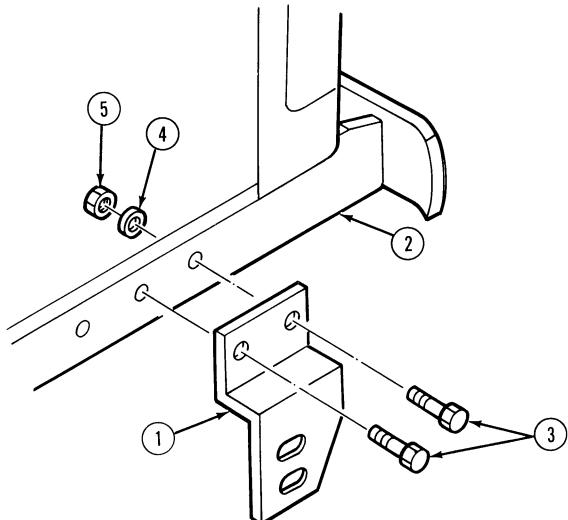
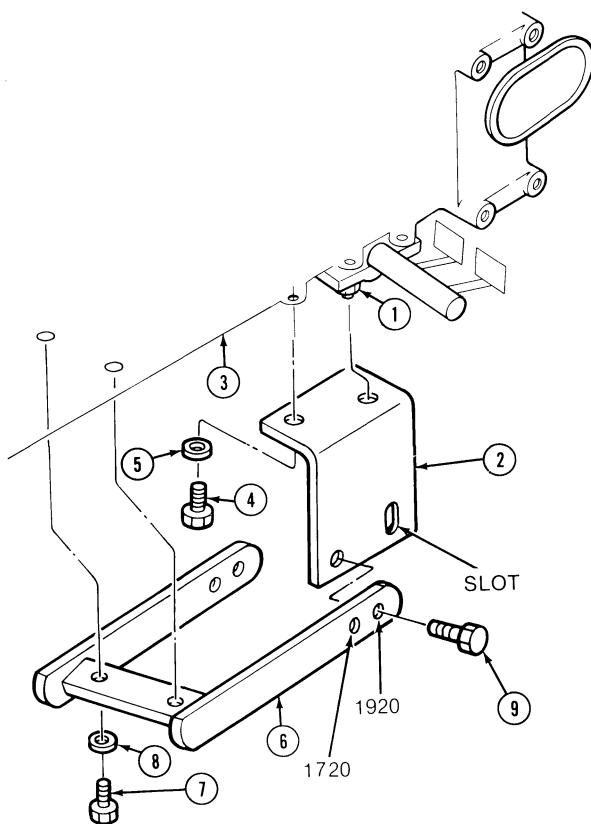
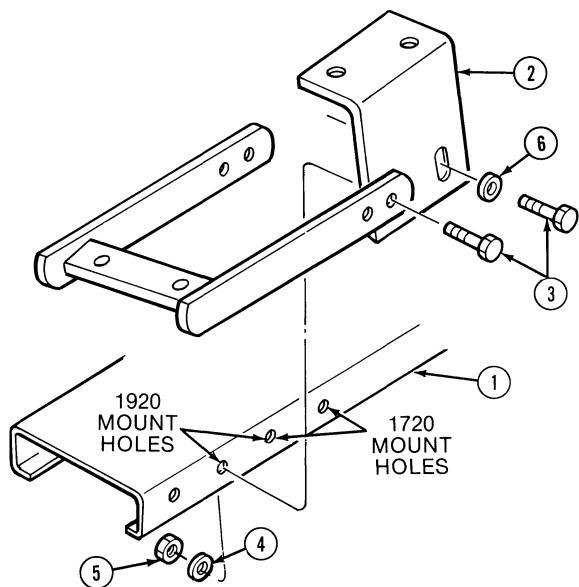

Figure 8
Figure 9
Figure 10
1. Using the tractor frame hole combination nearest to the tractor bumper, attach the front mounting brackets, (1), Figure 8, using four 1/2" NF x 2" hex hd. bolts, (3), lockwashers, (4), and nuts, (5). Do not tighten the bolts at this time.
2. Before the rear mounting bracket can be attached the existing two M10 bolts, (1), Figure 9, at the rear of the brake/clutch support brackets must be removed. They are located on the underside mid section of the tractor.
3. Attach the right and left rear mounting brackets, (2), Figure 9, (slot to front) to the underside mid section of the tractor, (3), using four M10 x 1.50 x 35 mm hex hd. bolts, (4), lockwashers, (5), and stud and thread sealer. Do not tighten the bolts at this time.
4. Depending on the tractor model (1720 or 1920), insert two 5/8" NF x 2" hex hd. bolts, (9), through proper hole in rear assist bracket, (6), and back hole in the rear mounting bracket, (2), as shown in Figure 9. Do not attach lockwashers and nuts at this time. Attach the rear assist bracket, (6), to the underside rear section of the tractor, (3), using two M16 x 2.00 x 40 mm hex hd. bolts, (7), lockwashers, (8), and stud and thread sealer. Do not tighten bolts at this time.
IMPORTANT: *Torque the M10 dia. bolts, (4), Figure 9, to 47-51 lbs.-ft.*
2. Select the proper hole in the rear frame, (1), Figure 10, depending on the tractor model (1720-1920). Attach the rear frame, (1), Figure 10, to the rear mounting bracket, (2), using two 5/8" NF x 2" hex hd. bolts, (3), lockwashers, (4), and nuts, (5). Do not tighten at this time.
4. Attach the rear frame, (1), to the front hole in the rear mounting bracket using two 5/8" NF x 2" hex hd. bolts, (3), spacers, (6), lockwashers, (4), and nuts, (5), as shown in Figure 10. Use spacer, (6), over each slotted hole, as shown in Figure 10.
IMPORTANT: Torque the 5/8" dia. bolts, (3), (Figure 10 and 11) to 150-180 lbs.-ft. Torque the 1/2" dia. bolts, (3), (Figure 8) to 80-96 lbs.-ft. Torque the M16 dia. bolts, (4), (Figure 9) to 129-145 lbs.-ft.